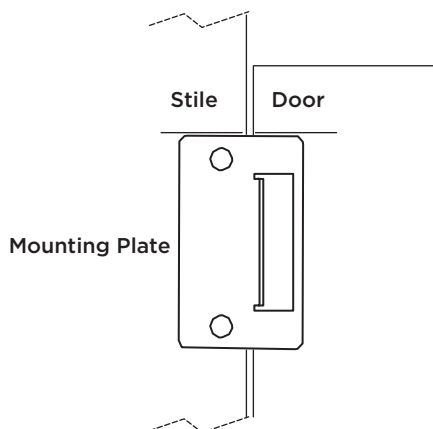

Fig. 3
- A. Determine desired height of indicator and mark a line on pilaster or door for drilling. Recommended mounting height is 2" from top edge of door to top of mounting plate. See **Fig. 3**.
- B. Use the mounting plate as a template to mark hole locations, place the top of the mounting plate over the marked line and position the flange against the vertical edge of the pilaster or door to mark hole locations. **Fig. 3**.